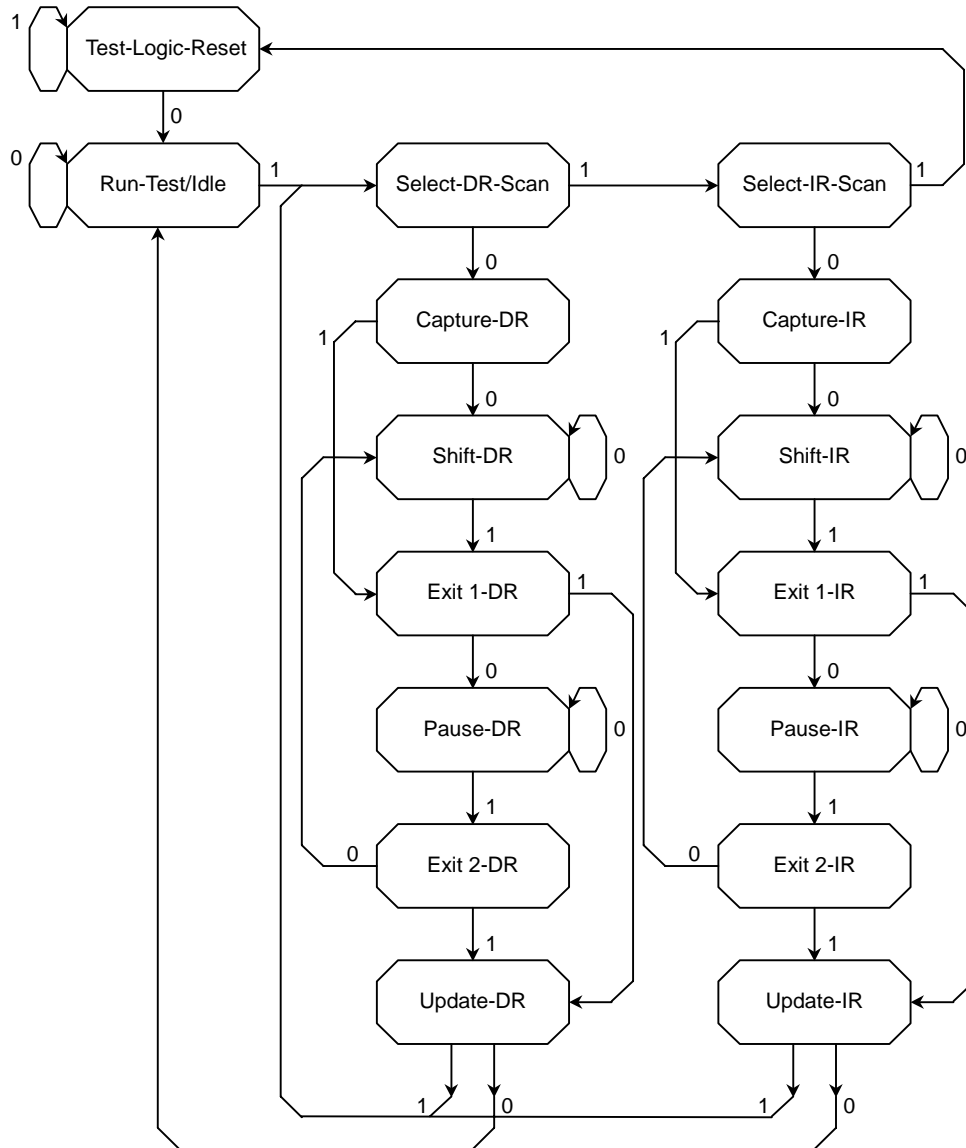

Figure 21.7 TAP Controller State Diagram
The state transition diagram of the TAP controller is shown in Figure 21.7. Each arrow between states is labeled with a 1 or 0, indicating the logic value of TMS that must be set up before the rising edge of TCK to cause the transition.
The following paragraphs describe each of the controller states. The left vertical column in Figure 21.7 is the data column, and the right vertical column is the instruction column. The data column and instruction column reference data register (DR) and instruction register (IR), respectively.